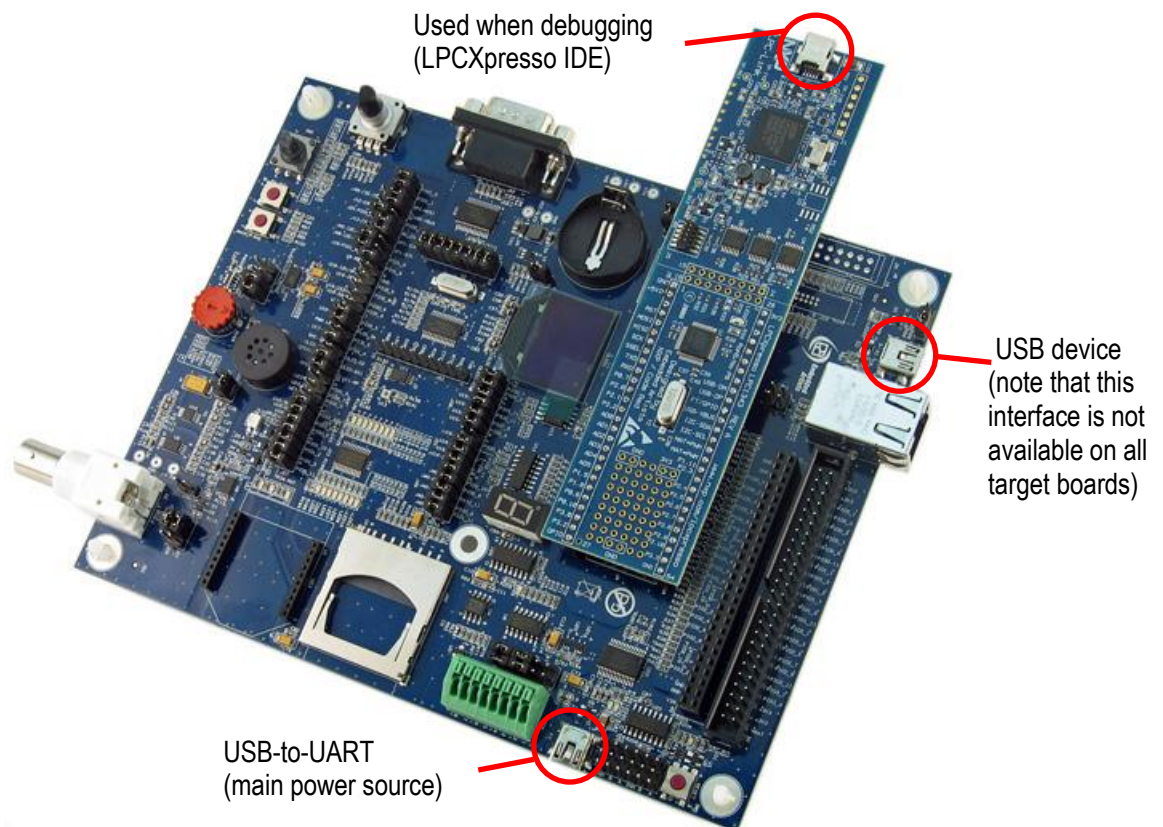

Figure 3 – Base Board with a mounted LPCXpresso LPC1343 board
There are three USB interfaces in total when the *LPCXpresso target board* is mounted on the *LPCXpresso Base Board*. Technically any of all three can be used to power the system, but the main power source is however the USB-to-UART bridge. See Figure 3. Section 3.4 describes how to install necessary drivers for the USB-to-UART bridge.
1. Make sure you have connected a USB cable (mini-B to A) between your computer and the LPCXpresso LPC1xxx board, see Figure 3 (USB interface 2).
5. You need to have a USB cable (mini-B to A) connected between your computer and the USB interface (interface 3 as shown in Figure 3).